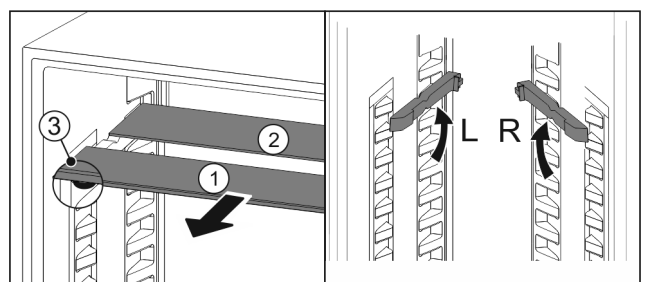

Fig. 81
- Pull the glass panels out Fig. 81 (1) from the front, one at a time.
- The glass panel Fig. 81 (1) and trim strip are at the front.
- The stops Fig. 81 (3) point down.